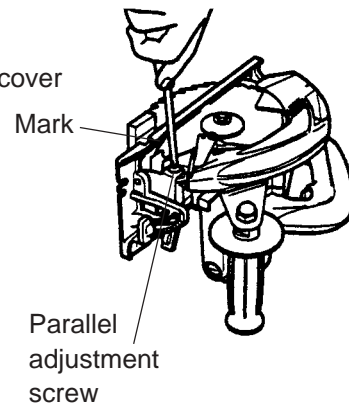

Fig. 3
- (d) Move the marked piece of wood to the front of the base and turn the parallel adjustment screw until the mark aligns with the side of the base (Fig. 3).